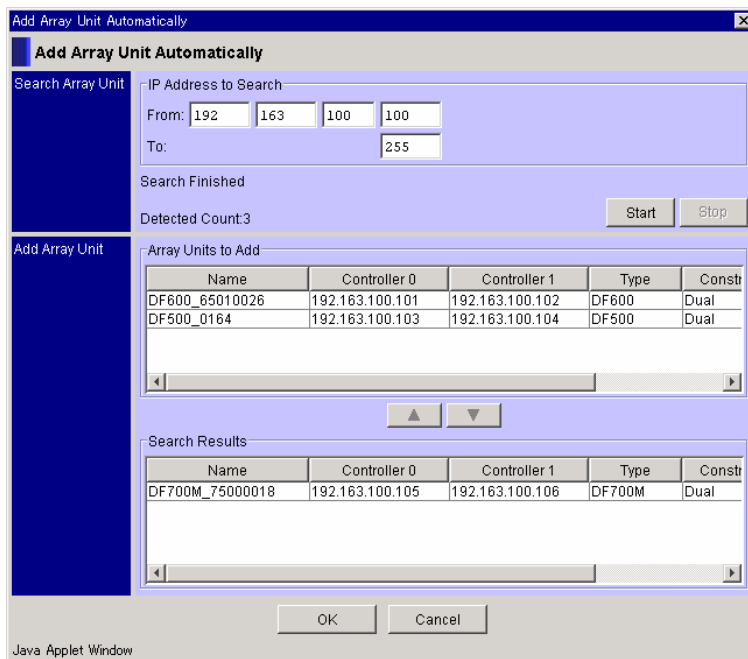

Figure 4.9 Add Array Unit Automatically - Search Results
- Under Search Results, select one or more names to register and click . The selected subsystems are moved from the Search Results list to the Array Units to Add list of the Add Array Unit. See Figure 4.9.